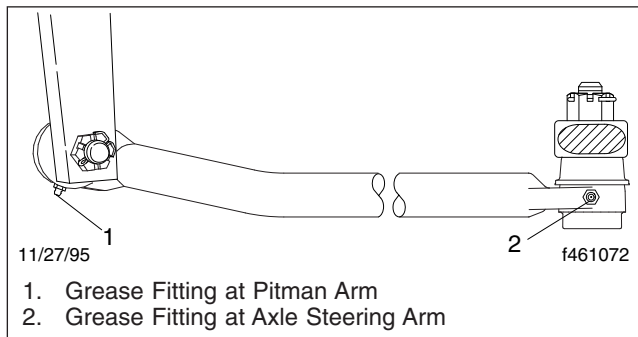

Fig. 3, Drag Link
2. Using a clean rag, wipe all dirt from the drag link grease fittings. See Fig. 3.